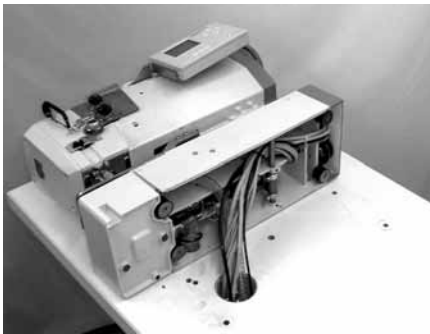

Fig. 1
- Place the machine head on the table plate according to figure 1.